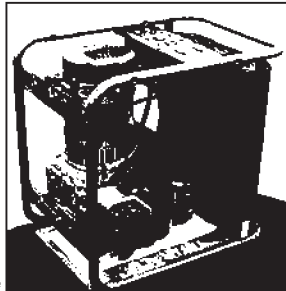

Figure 2
2. Place a 1" thick x 1' square piece of wood on the ground in front of the engine. **NOTE:** Some units may require more than one piece of wood to properly support the engine. Failure to support the engine properly could result in isolator damage. With the help of another person, tilt the generator and rest the recoil starter on the wood. See Figure 2. **NOTE:** This will support the gasoline engine during assembly and make assembly easier.